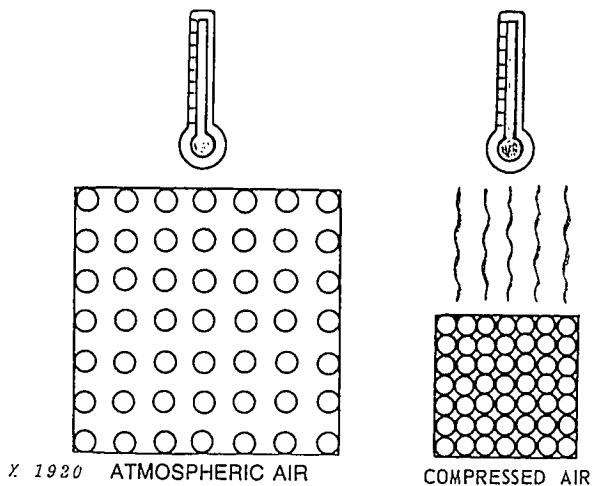

Fig. 3 — Air Heats When Compressed
(2) Air heats when it is compressed. The molecules of air rub against each other and produce heat (Fig. 3).